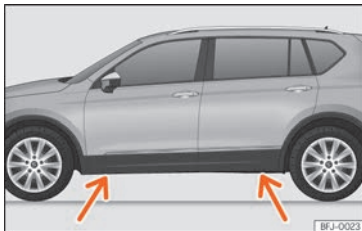

Fig. 40 Jack position points.
- Find the support point on the strut (sunken area) closest to the wheel to be changed >>> Fig. 40.